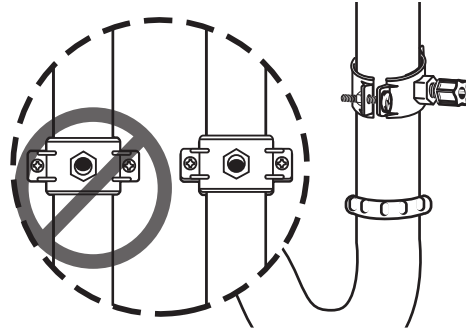

Figure 8
6. Make sure the black rubber gasket is adhered to the inside of the drain clamp and place the drain clamp assembly over the drilled hole. Look through the hole and position the clamp so that the center of the clamp hole is slightly higher (about 1/16") than the center of the drilled hole, see Figure 8. Tighten the clamp securely.